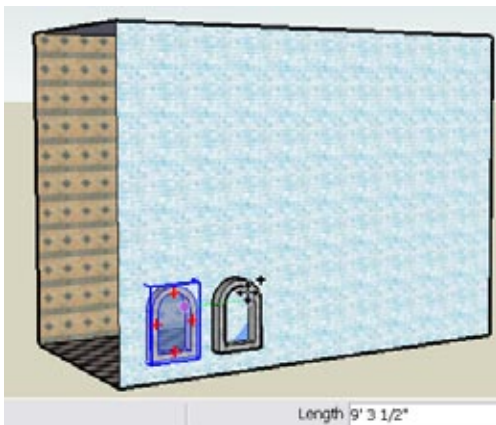

Figure 1-3
4. The second point places the copy. Move the mouse directly to the right, in the green or red axis direction, as shown in Figure 1-3. (Whether the direction is green or red depends on how you oriented your model.) While you're moving the mouse, look at the Length box, which indicates the distance between copies.